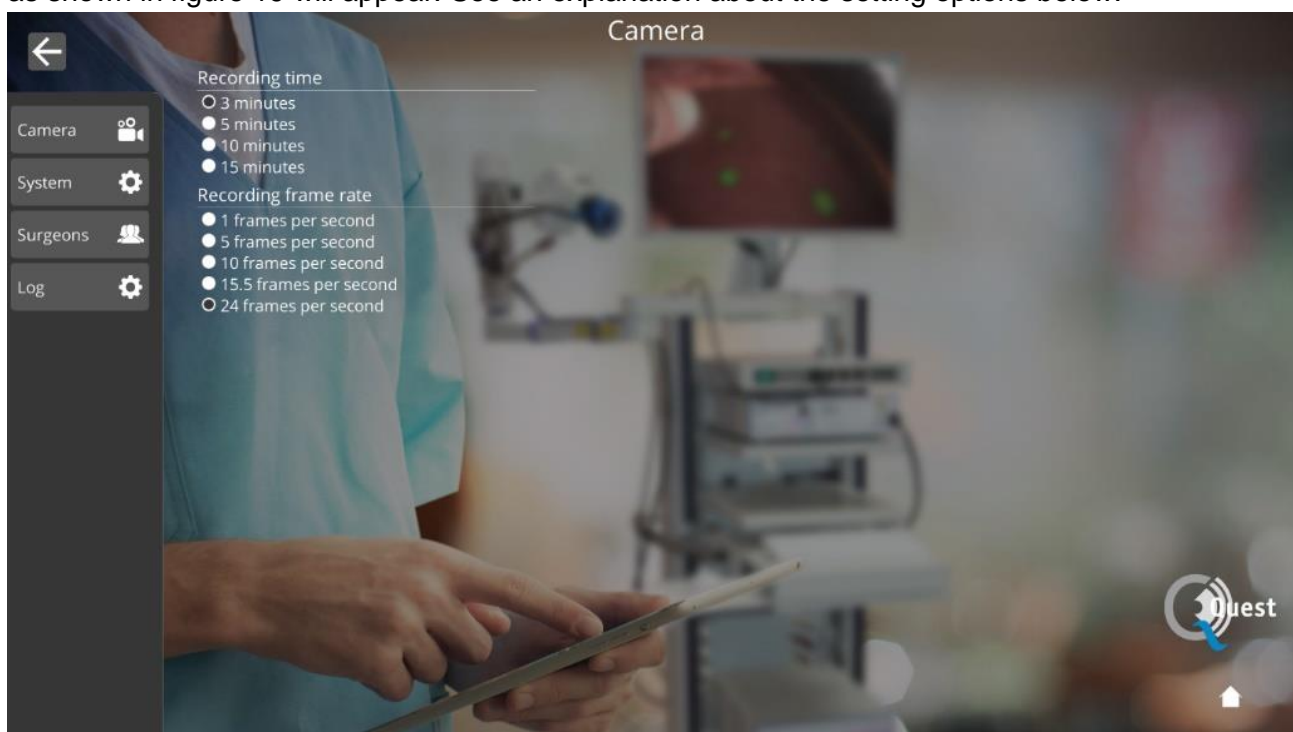
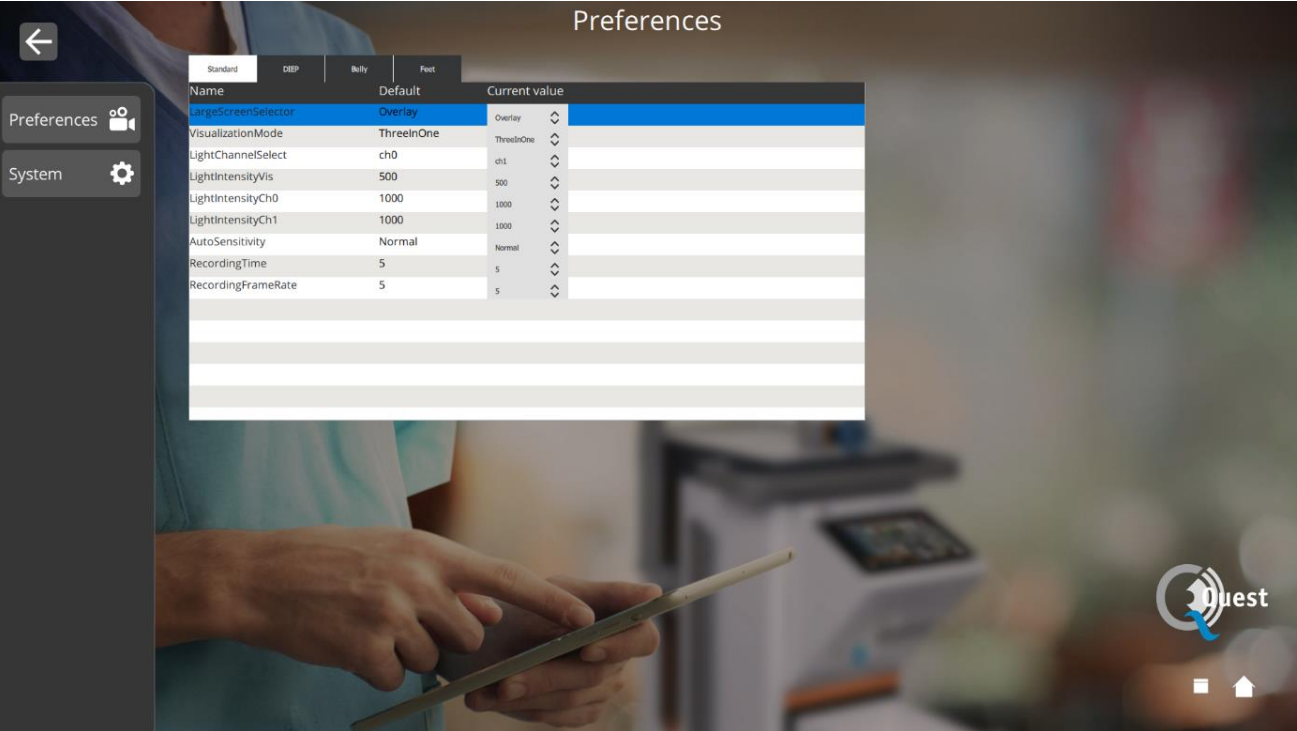

Figure 19: Technical service settings
Figure 20: surgeon's settings
- Access the technical staff's settings (see figure 19 and figure 20 and further explanation below)
When having entered the correct pin-code after selecting the option Technical service, an interface as shown in figure 19 will appear. See an explanation about the setting options below.
After having selected the surgeon and correct pin code, an interface as shown in figure 20 will appear.